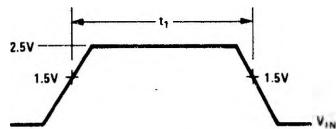

Figure 1
- Set-up time( $t_1$ ) for input trigger pulse  $> 40$  ns. (See Figure 1)